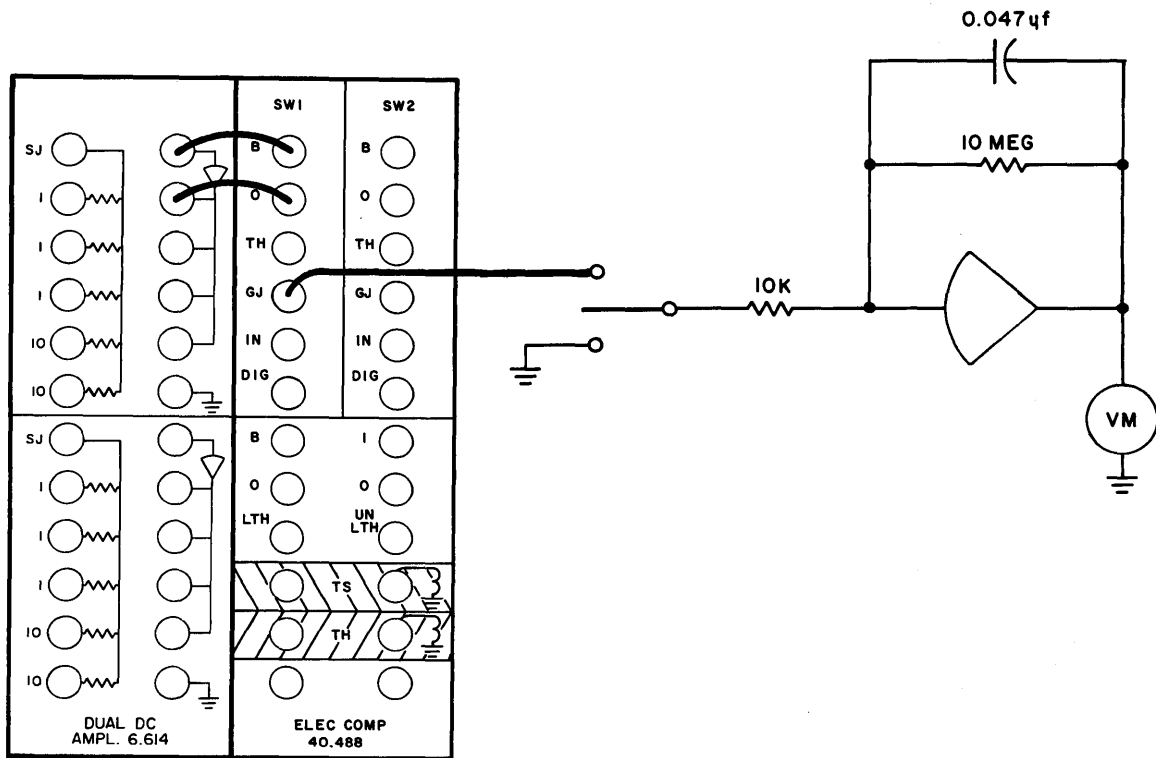

Figure 11. Gate Junction Offset, Test Circuit
- (1) Connect the circuit shown in Figure 11 with the function switch set to the down position.
- (2) Set the voltmeter to the 1.0 volt range and balance it.
- (3) Set the function switch to the up position and adjust R31-1 for a minimum reading.
- (4) Repeat the procedure for SW2 and adjust R31-2.